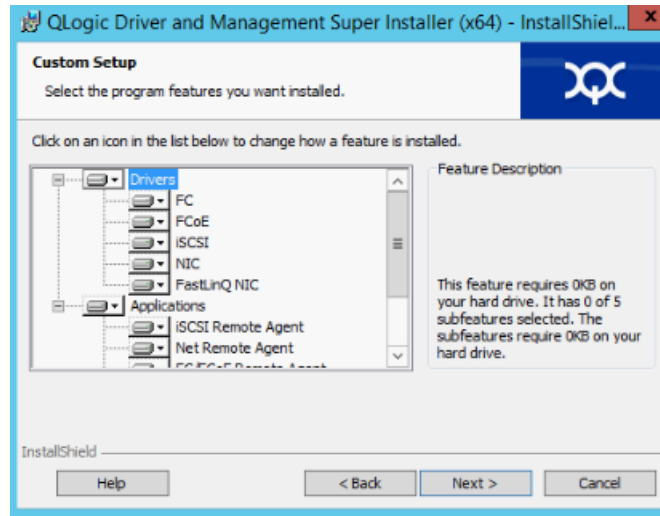

Figure 3-5. InstallShield Wizard: Custom Setup Window
6. If you selected **Custom** in Step 5, complete the Custom Setup window (Figure 3-5) as follows: